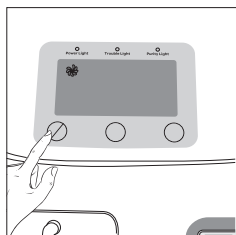

Figure 6
6. Press ON / OFF button. The device is now turned on. You can begin breathing from the device immediately even though it typically takes minutes to reach oxygen purity specifications. (Figure 6)